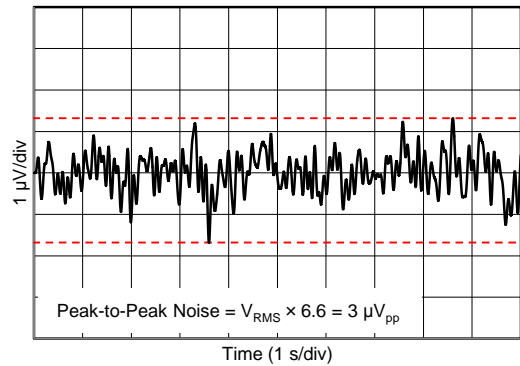

Figure 16. 0.1-Hz to 10-Hz Input Voltage Noise
0.1-Hz to 10-Hz Input Voltage Noise	Figure 16